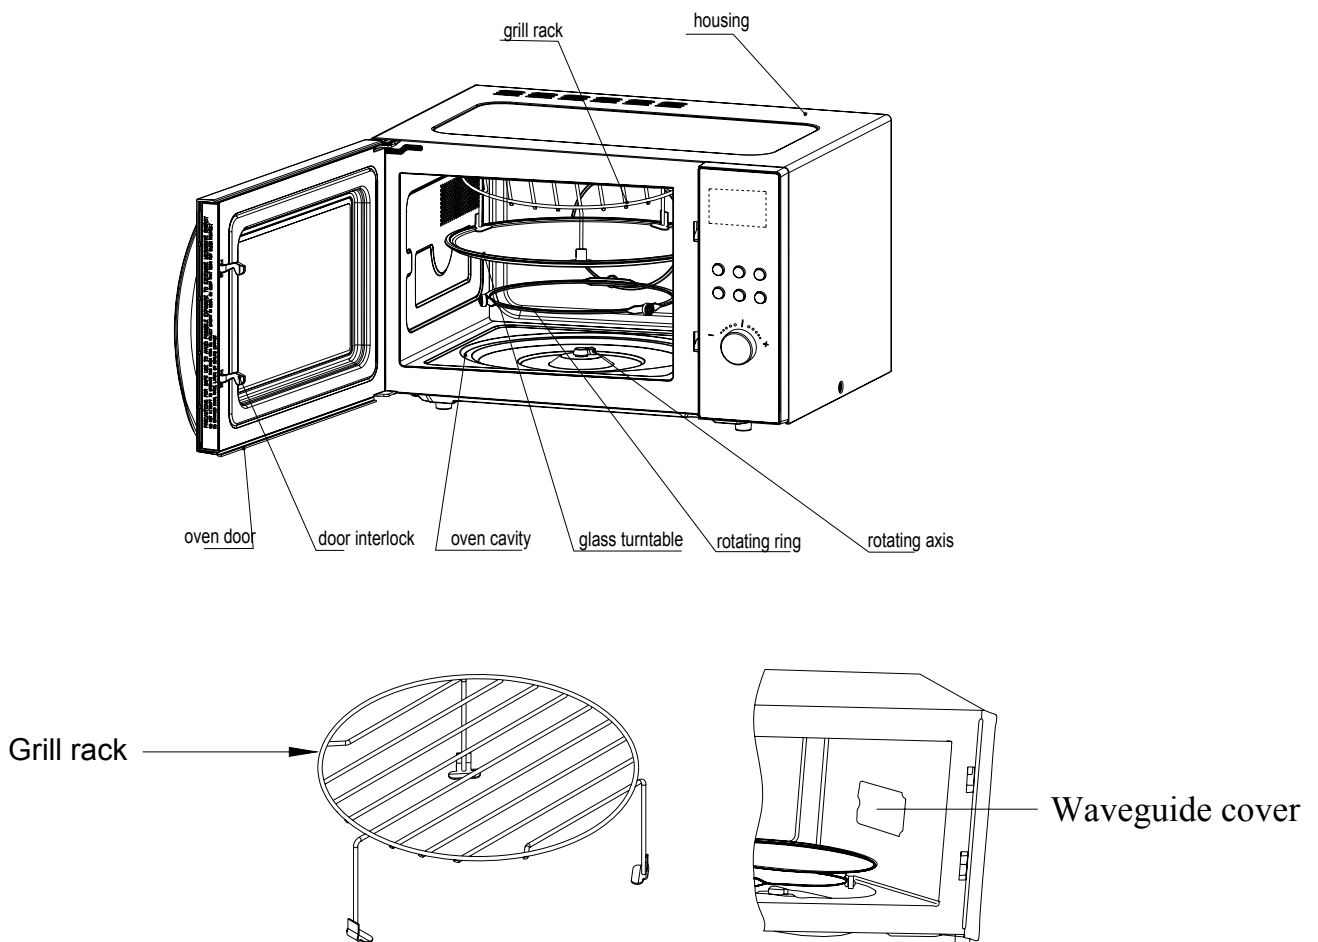

Fig.1
3. Do not remove the Waveguide cover during cleaning (see Fig.1).